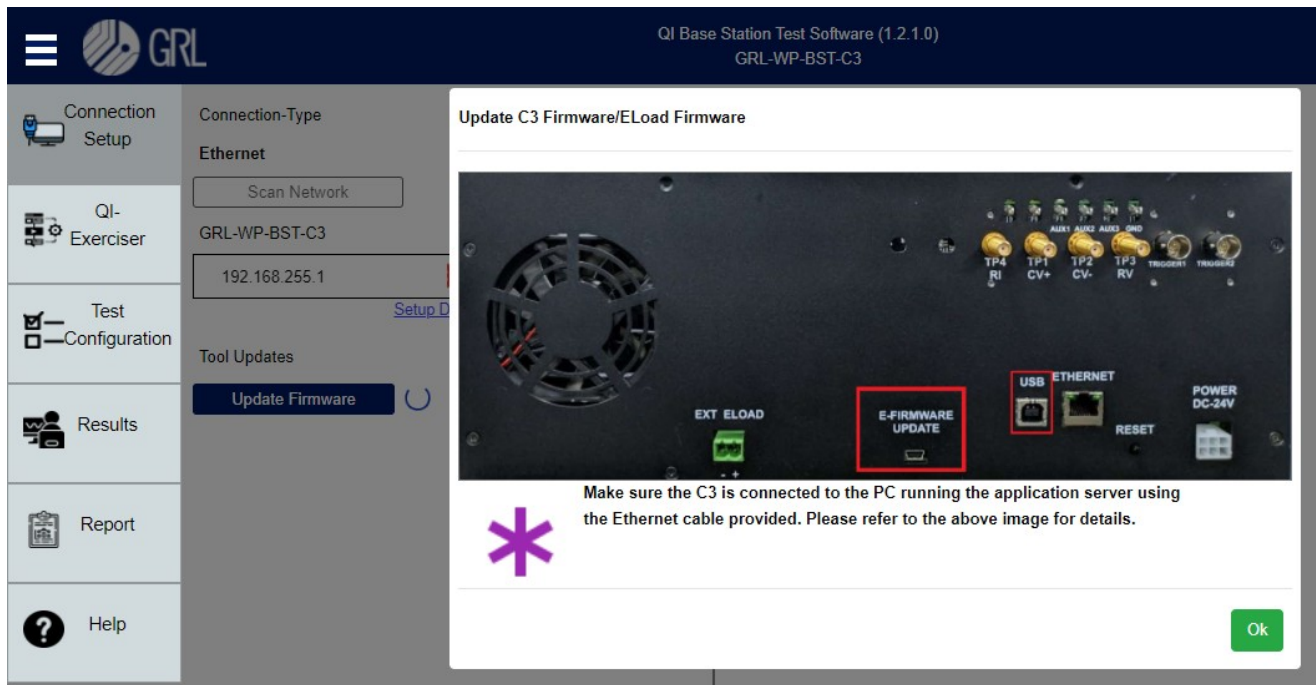

FIGURE 7.3: UPDATE GRL-C3 FIRMWARE– #1
1. Click on the **Update Firmware** button and the following pop-up message will appear (Figure 7.3 below). Using a standard USB Type-B cable, connect the USB Type-B port (for firmware update as indicated in the image) at the back of the GRL-C3 tester hardware to the control PC (where the GRL-C3 Browser App is running). When connected, click “Ok” to proceed.